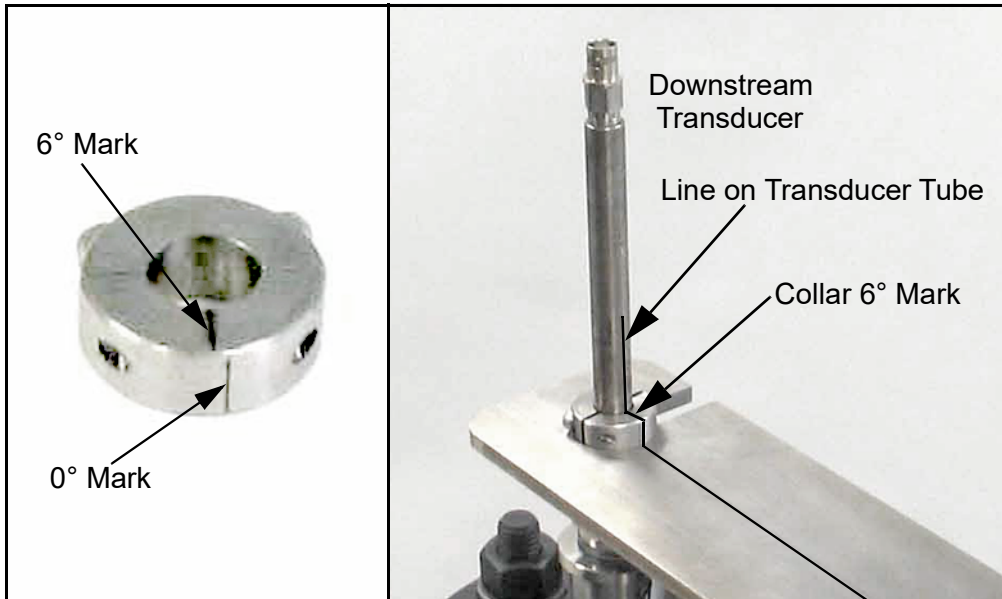

Figure 11: Installing the Locking Collar
- Slide the *locking collar* over the downstream transducer to the cavity on top of the guide plate. Align the 6° mark on the top of the collar with the line on the transducer (see *Figure 11* below). Then, tighten the collar set screws until the collar is secured to the transducer.